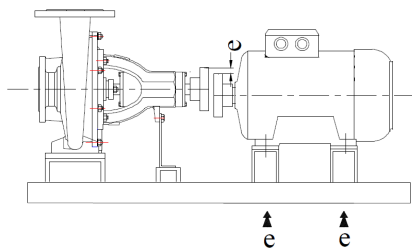
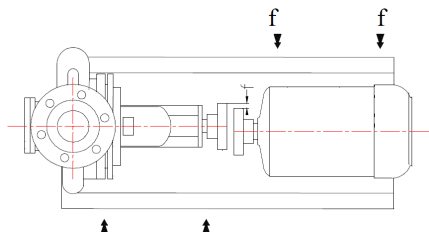

Figure 4: Parallel Axis Misalignment in Vertical Plane and Its Correction
Figure 6: Parallel Axis Misalignment in Horizontal Plane and Its Correction
1. 1. Paralel Axis Misalignment (Figure 4-Figure 6)